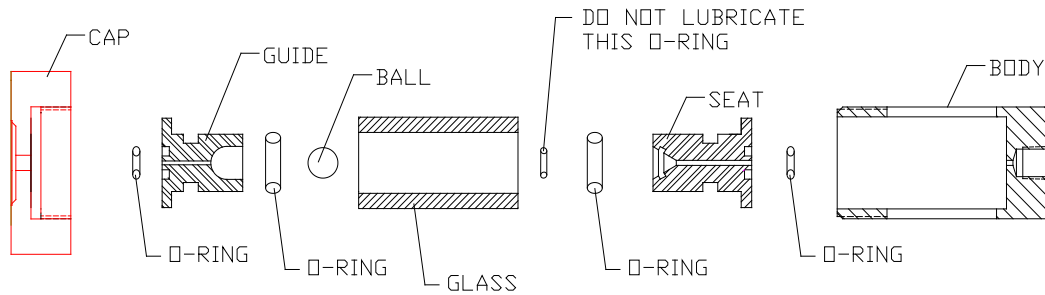

FIGURE 4
3.2.11 Replace all five seals #6 (2), #8 (2) and #10 in the assembly (see Figure 4).